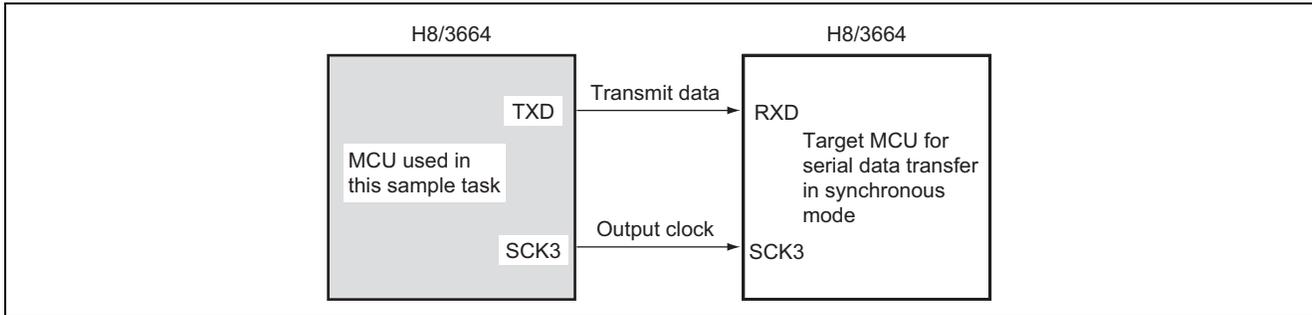

Figure 1 Serial Data Transmission in Synchronous Mode
1. Four bytes of 8-bit data are transmitted by serial data transfer in synchronous mode, as shown in figure 1.